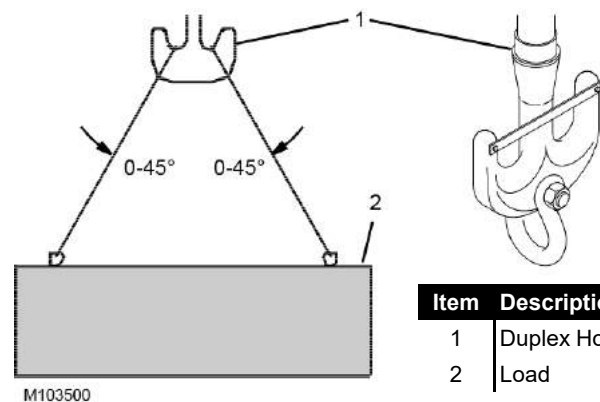

FIGURE 4-166
Attach the load (2) so it is balanced equally on the duplex hook (1). The lifting slings must be within the angles given in Figure 4-166 to achieve maximum hook capacity. The duplex hook has a hole to which an optional shackle can be attached as shown in Figure 4-166.